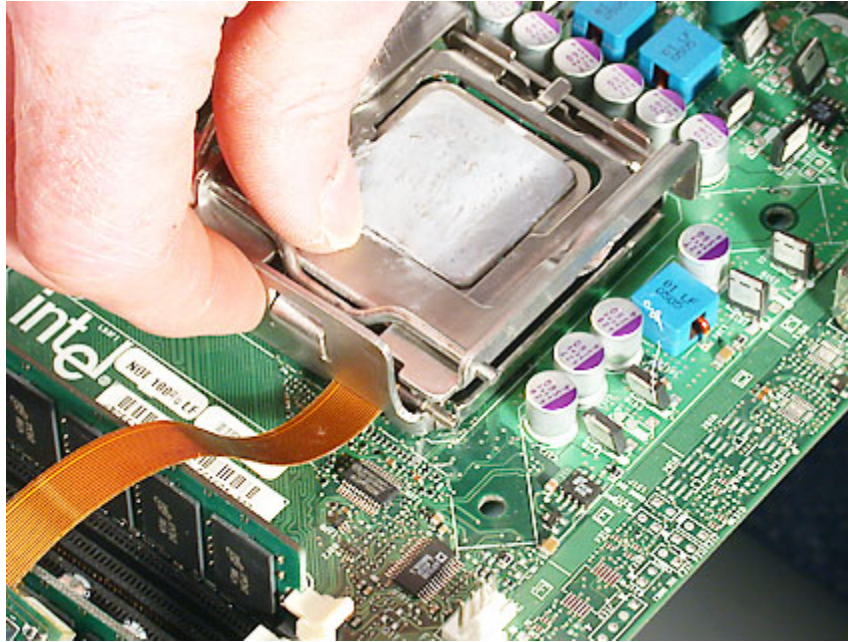

Figure 2.10 Engaging the End Plate hook over the Top Clamp Lever
10. While ensuring that the End Plate hooks are still fully engaged under the on-board socket Load Lever, clip the hook on the End Plate over the top of the Top Clamp Lever. The End Plate should fit into in a slight recess in the Top Clamp (Figure 2.10).